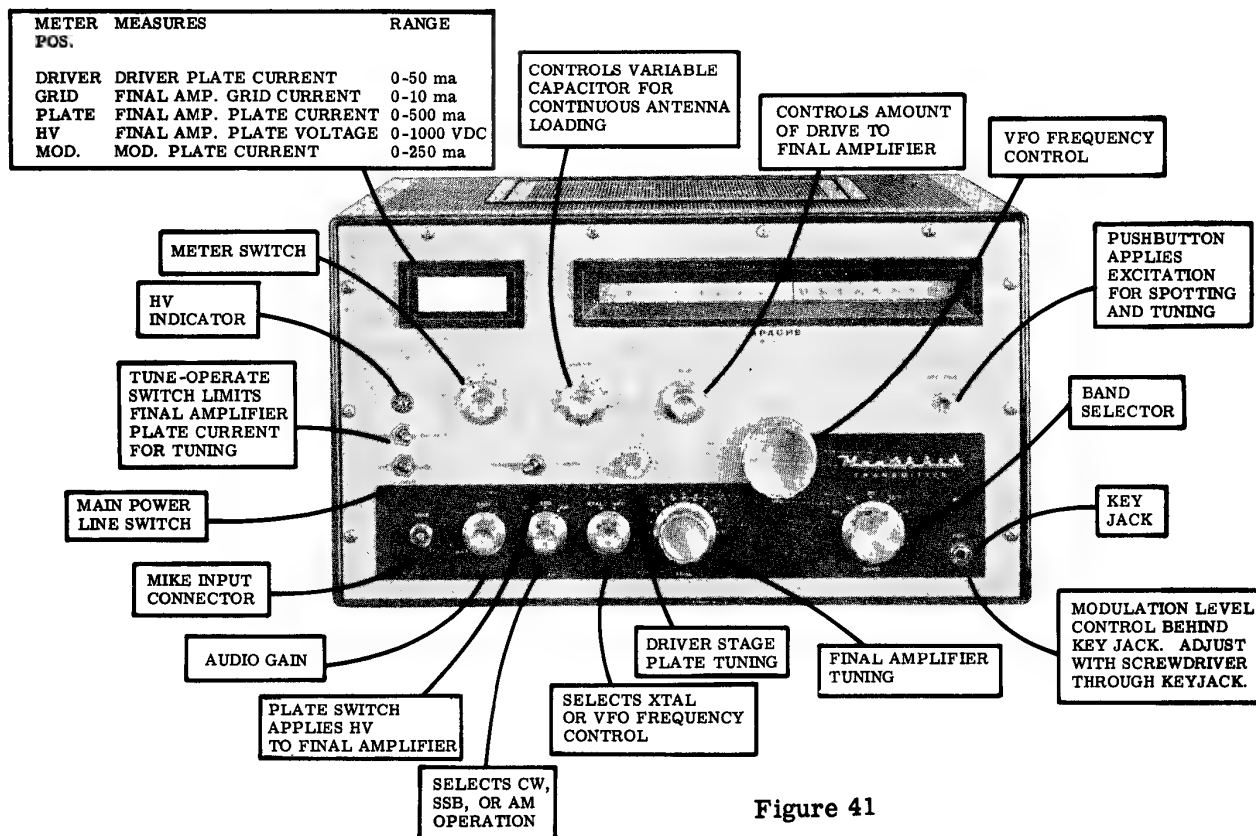

Figure 41
- () Rotate all controls and switches on the front panel full CCW. Install the aluminum knobs with pointers oriented properly and using #8-32 x 1/4" Allen head set screws. Refer to Figure 41 for the knob size to use at each location. Use the #8-32 x 1/8" Allen head setscrew on the smallest knob. On flatted shafts, make sure the setscrew opposite the pointer is seated on the shaft flat. Notice that the three larger size knobs have two setscrews per knob. The VFO knob does not require any special positioning.
NOTE: See Figure 41 for a description and the location of all operational controls on the transmitter before beginning the tuning procedure. A knowledge of each control function will assist in accomplishing the tuning without difficulty.